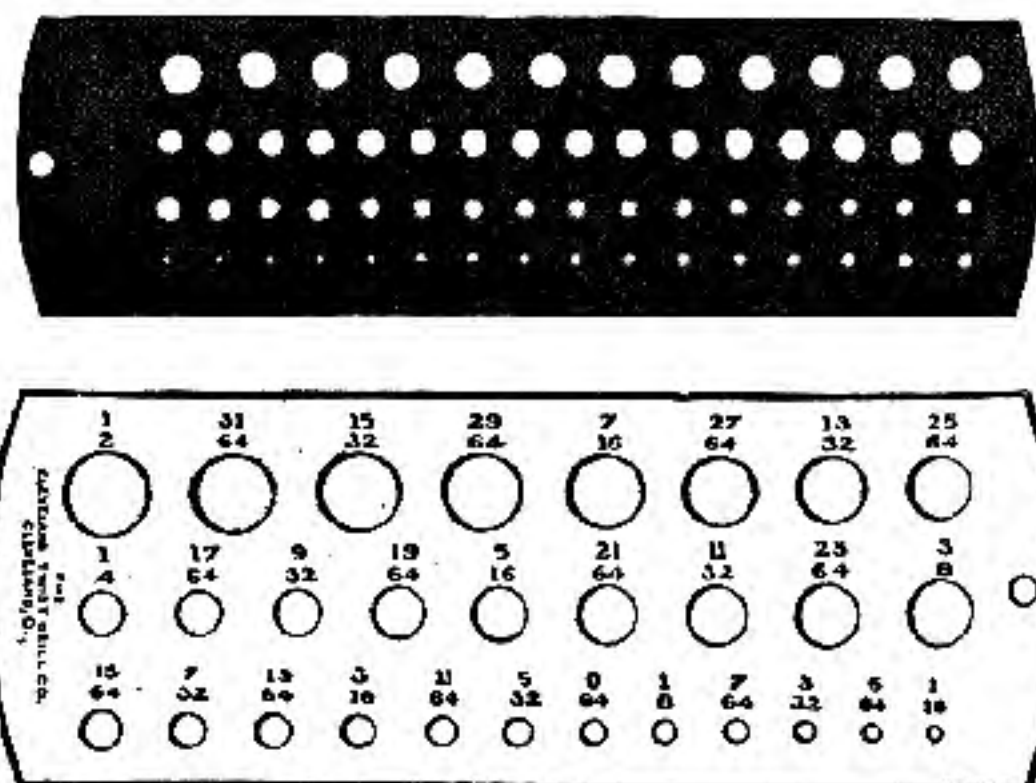

Fig. 10
**Drill and Wire Gauge**—Starrett's #185 gauge is a necessary tool, as you will refer to this more than any other outside of your micrometer. Also get a fractional-size chart and the letter-size chart. All these come in handy for checking the diameters of round stock, and also for measurement when turning work in the lathe. Figure 10 shows fractional and number drill gauges.